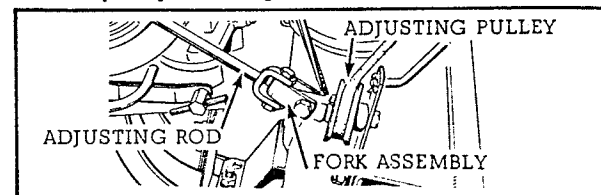

Fig. 8
3. Assemble the lower end of the adjusting handle to the fork assembly on the adjusting pulley. See figure 8.